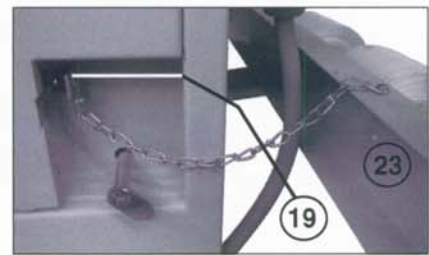

fig. 3
- 19 = safety switch activator (fig. 3)